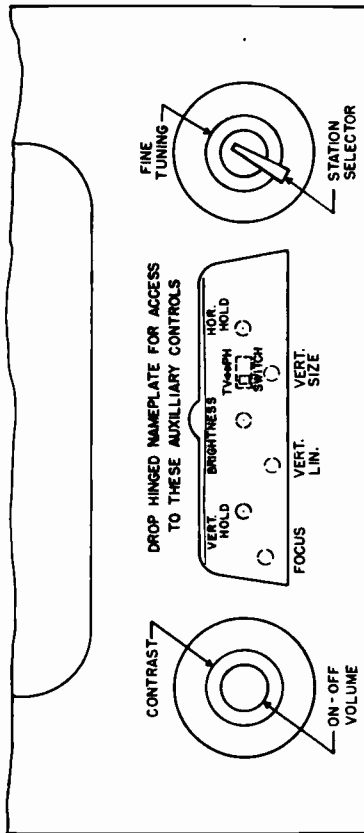
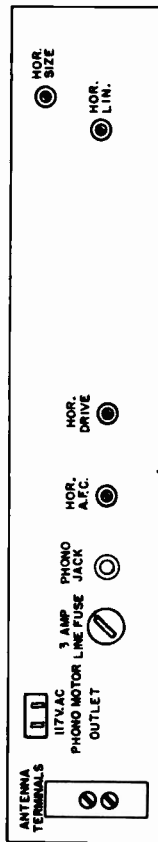

FIG. 1 — FRONT PANEL SERVICE ADJUSTMENTS
FIG. 2 — REAR PANEL ADJUSTMENTS
Below is given a description of the steps required in adjustment of the Beam Bender, C. Deflection Yoke, Focusing, Vertical and Horizontal Peaking and Horizontal A.F.C. However, it should be remembered that these adjustments are to be made only when picture quality is such that service adjustment is warranted. Use this description as a check-list and if a particular phase of quality is good, leave it alone and go on to the next operation. Refer to figure 1 for location of front panel controls, or to figure 2 for location of rear panel controls.
A Phono-Jack and a 117V. A.C. outlet are provided at the rear of the chassis (See fig. 2) for connection of a record-player or changer. A TV-Phono transfer switch is concealed behind the trap door on the front of the cabinet (See fig. 1).
3. Adjust the focus control (see fig. 1) so that the lines of the raster are sharp and distinct over the greatest screen area.
2. Adjust the VERTICAL SIZE and VERTICAL LINEARITY controls (see fig. 1) until the test pattern is vertically linear and symmetrical, and fills the mask. Adjustment of either control may require readjustment of the other. If vertical synchronization "falls out," re-adjust the VERTICAL HOLD control.
4. Adjust the HORIZONTAL PEAKING control trimmer (see fig. 2) for a horizontally symmetrical pattern and for elimination of any existing vertical bars in left-center of picture.
5. Adjust the HORIZONTAL LINEARITY control (see fig. 2) for central alignment of the inner circles of the test pattern.